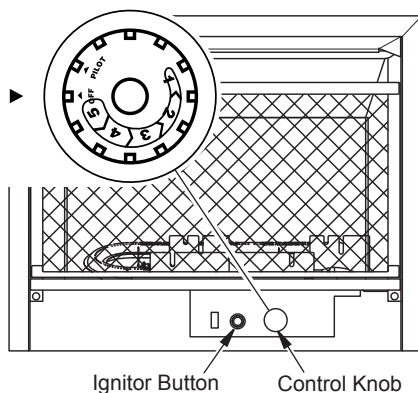

Figure 21 - Control Knob in the OFF Position
4. Wait five (5) minutes to clear out any gas. Then smell for gas around heater and near the floor. If you smell gas, STOP! Follow "B" in the safety information on page 18. If you do not smell gas, go to the next step.
5. Turn control knob counterclockwise  to the PILOT position. Press in control knob for five (5) seconds (see Figure 21).